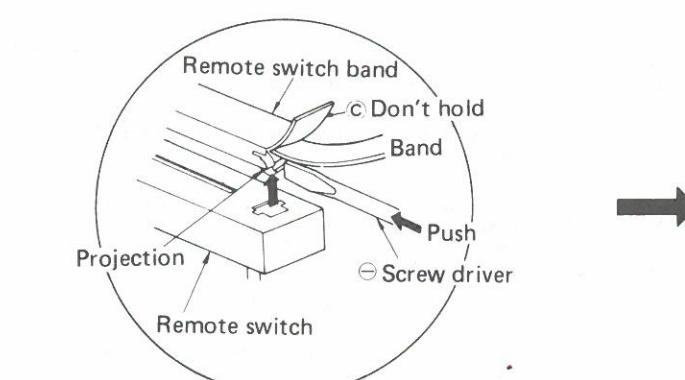

Fig. 12
⑥ ~ ⑩	⊕ 4 x 25mm (With spring washer & plain washer)	Black	XYAS4+25001	2
⑪ ~ ⑯	⊕ 3 x 8mm, Tapping	Black	XTB3+8BFZ	2
⑯ ~ ⑯	⊕ 3 x 10mm, Tapping (With plain washer)	Gold	XTW3+10H	4, 5
⑯ ~ ⑯	⊕ 3 x 8mm, Tapping (With toothed lock washer)	Black	XTBS3+8BFZ1	5
⑯	⊕ 3 x 10mm, Tapping (With plain washer)	Gold	XTW3+10H	5
⑯ ~ ⑯	⊕ 3 x 8mm, Tapping	Gold	XTB3+8B	6, 7
⑯ ~ ⑯	⊕ 3 x 8mm, Tapping	Red	XTB3+8BFYR	8
⑯ ~ ⑯	⊕ 3 x 10mm, Tapping (With plain washer)	Red	XTW3+10HFYR	9
⑯ ~ ⑯	⊕ 3 x 10mm, Tapping	Black	XTB3+10BFZ	10
- Press the band with a screw driver in the direction shown in Fig. 12.
- Remove the band, first at point A as shown in Fig. 13. (Care should be taken not to hold C in Fig. 12.)